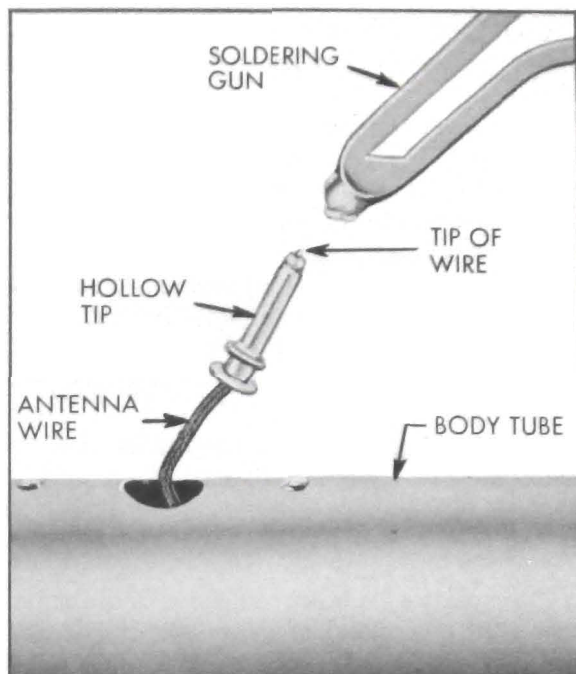

Figure 11-5—Antenna Wire Soldering
3. Using a soldering gun, solder the hollow tip to the wire securely. See Figure 11-5.